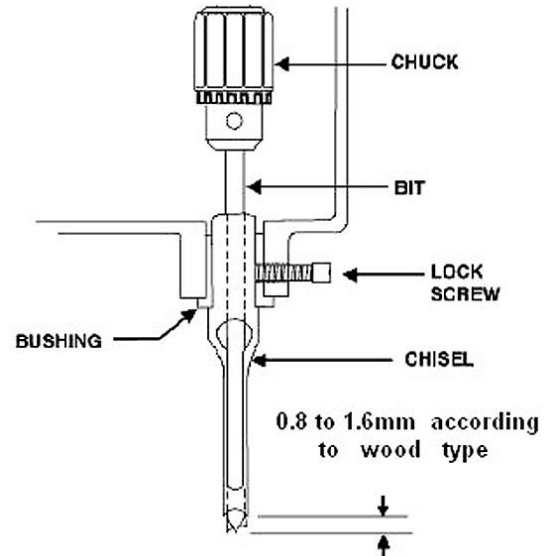

Fig 7
1. Loosen lock screw, shown in Figure 7.